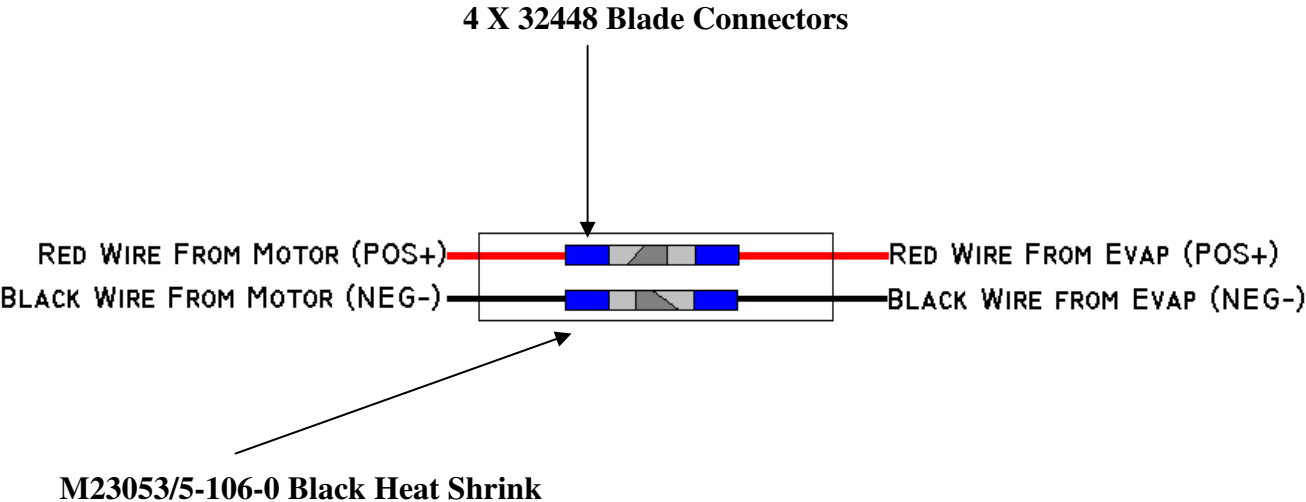

Figure 2.0 Blower electrical connection
7. Splice new motor assy. into existing wiring on evaporator assy. using 4 ea. 32448 Blade Connectors and M23053/5-106-0 heat shrink (Figure 2.0).